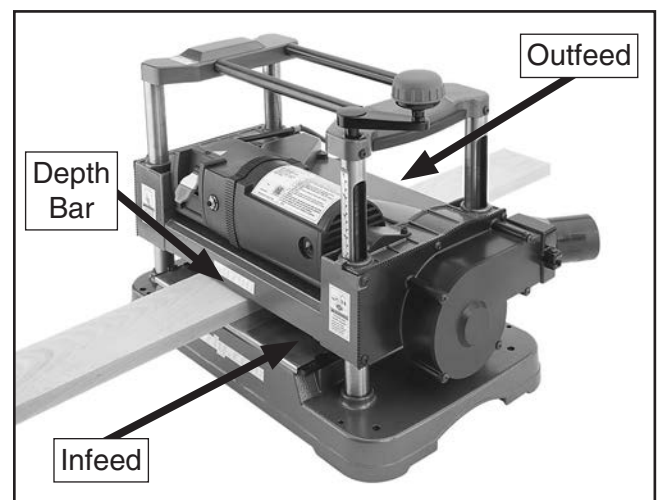

Figure 16. Basic planing operation setup.
2. Lower cutterhead until depth bar (see **Figure 16**) just touches workpiece.